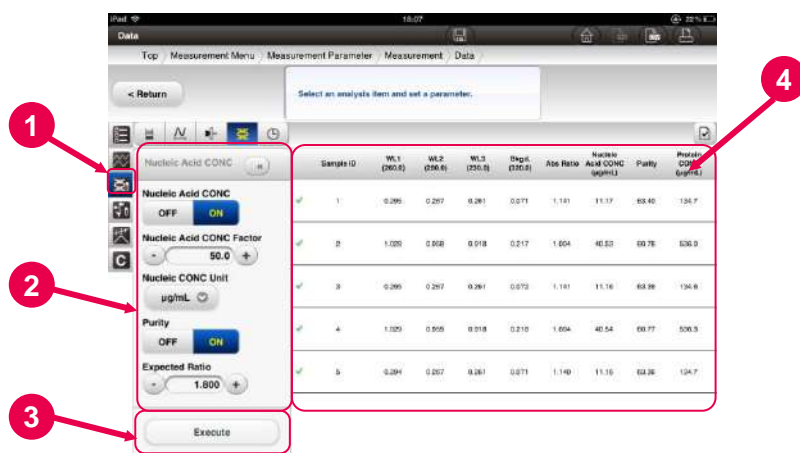

Fig. 5-40 Nucleic Acid Concentration Conditions Setting Parameters Window
- (1) To change the nucleic acid concentration conditions, press the [Nucleic Acid Concentration Conditions Tool Icon] button .
- (2) The setting parameters for the nucleic acid concentration conditions (Fig. 5-40) are displayed. See 4.2.3 “Measuring Nucleic Acid Specimens” for the setting parameters.
- (3) Set up the items and press the [Execute] button.
- (4) The results of the data processing are displayed.